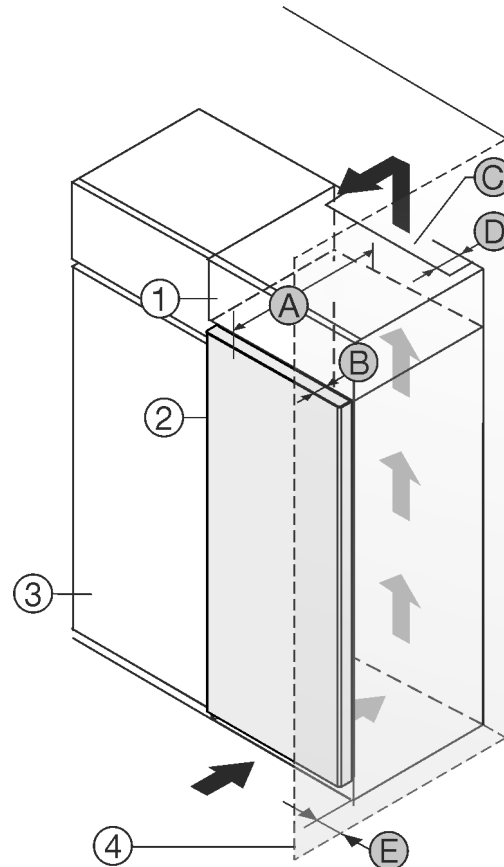

Fig. 1
- (1) Top cupboard *
- (2) Appliance *
- (3) Kitchen cabinet *
- (4) Wall *
- (A) Appliance depth *
- (B) Door depth *
- (C) Ventilation cross section *
- (D) Distance to the back of the appliance *
- (E) Distance to the side of the appliance *
You can place the appliance directly beside the kitchen cabinet Fig. 1 (3).*
There must be a ventilation shaft at the depth Fig. 1 (D) of the back of the top cupboard over the entire width of the top cupboard.*
The ventilation cross-section Fig. 1 (C) must be maintained under the ceiling.*
If the appliance is set up with the hinges next to a wall Fig. 1 (4), the distance between the appliance and the wall must be at least 13 mm.*
In order to be able to fully open the door, the appliance must protrude by the depth of the door Fig. 1 (B) from the front of the kitchen cabinet. The appliance may protrude further depending on the depth of the kitchen cabinets Fig. 1 (3) and whether wall spacers are used.*